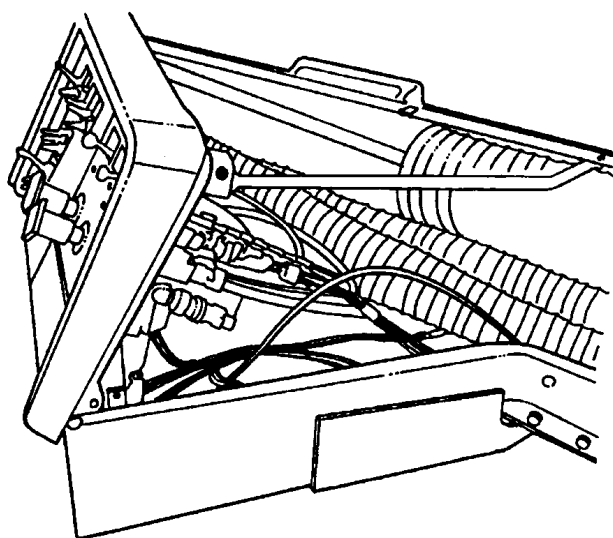

Figure 58 Dash Panel Remove/Install (9800)
4. Remove dash panel (Figure 58).
9. Install dash panel (Figure 58).